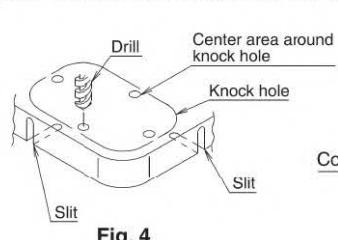

Fig. 4
- When connecting in a downward direction, open the knock out hole by making 4 round holes around the knock out hole by using a Ø 6 mm drill. (See Fig. 4)